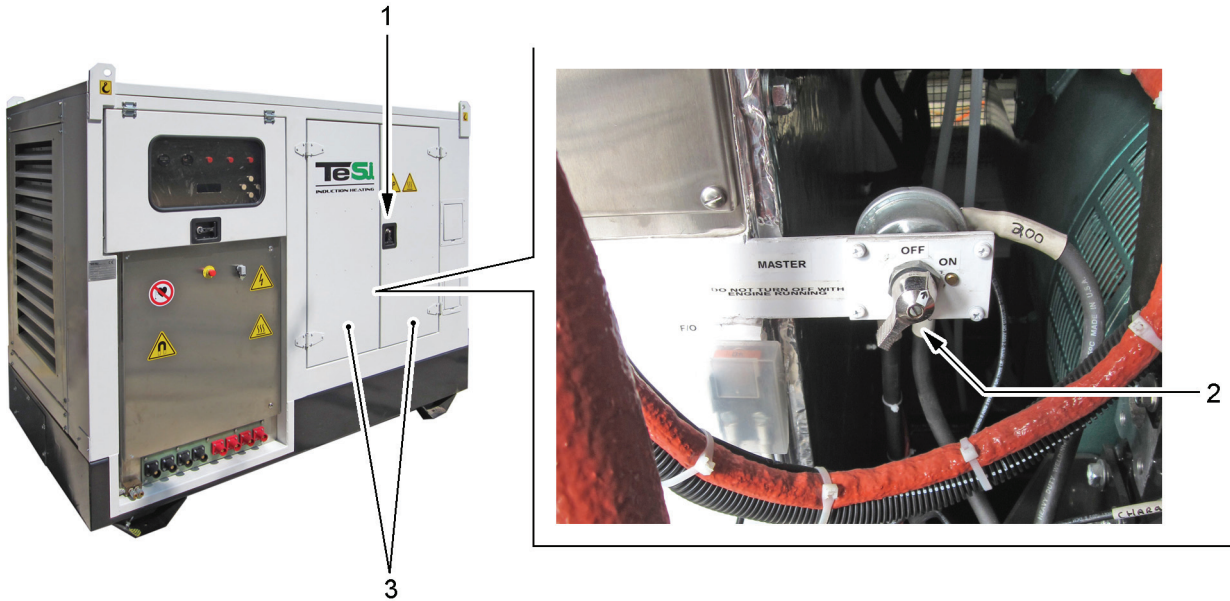

Figure 5.2 - Switch ON the batteries switch
- 1) Open the access door to the engine (see Figure 5.2/3), situated on the front part, by acting on the relevant handle (1), after having removed the locking padlock and switch ON the battery switch (2).